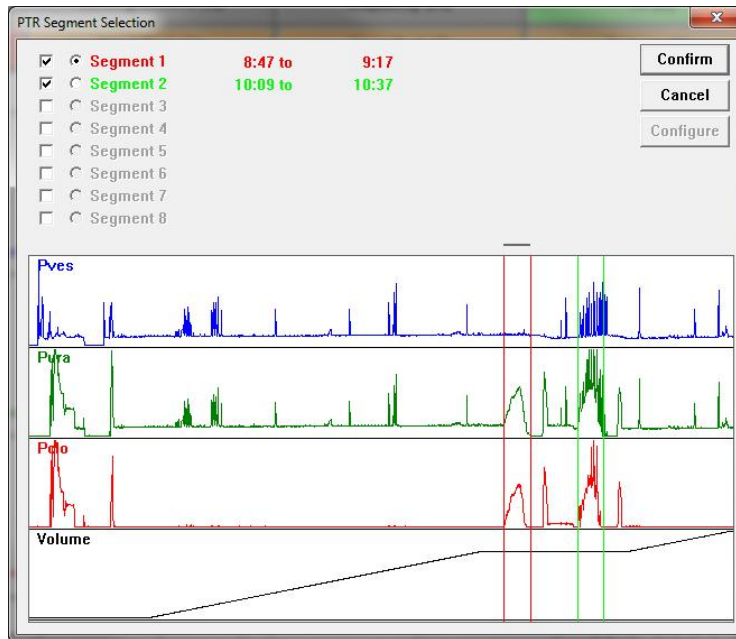

Figure 137: Basic PTR - PTR Segment Selection Box
2. Select **Basic PTR** in the Pressure Transmission window and click **OK**. The **PTR Segment Selection** box will appear (Figure 137).